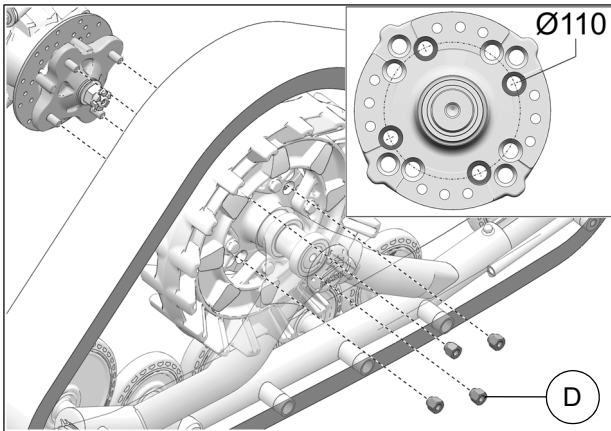

Fig. 11
9. Secure undercarriage to rear hub using the lug nuts (D) provided. Use bolt circle  $\text{Ø}110$  mm. See Fig. 11